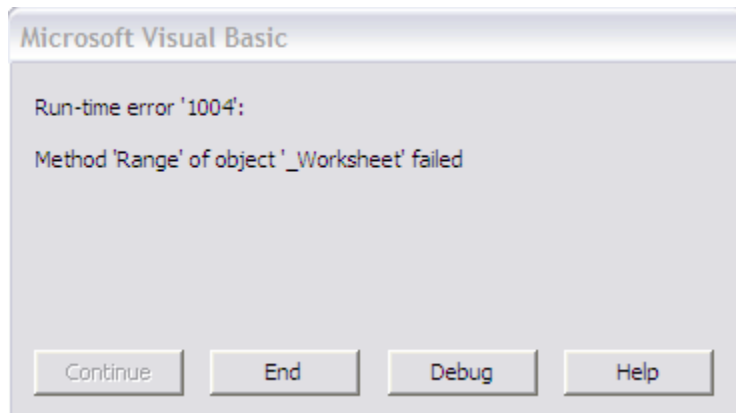

Figure D.1. Run-time error.
**3. Run-time Error:** If ever you get the pop up message shown in Figure D.1, click the **End** button to end the error. However, doing so will most likely have stopped your macros running. To have the tool properly running the calculations, save any data that you entered, then close the tool and reopen it.